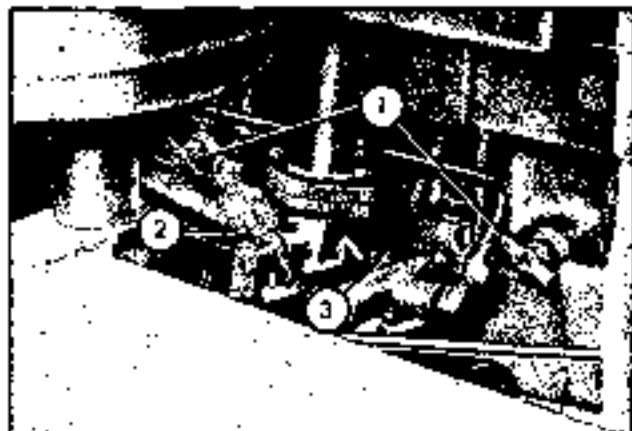

Fig. 1-15. Carburetor
8-17. GASOLINE CARBURETOR. (See figure 1-15). Inspect the linkages for signs of rough edges, paint, or binding. Check all connections for evidence of leaking. If the engine fails to start or does not operate properly, make the following carburetor adjustments.
- a. Screw in the idle adjusting needle (A, figure 1-15) until it just seats, then open the needle 2 full turns.
- b. Make certain the idle speed stop screw (B, figure 1-15) is holding the throttle disc slightly open.
3-23. The cooling system has 3 drains - the radiator drain, located at the lower side of the bottom tank; and a drain for each engine block (1, figure 1-15). When ever the system is drained, it should be done at the end of a day's run when any foreign material is in suspension and will be removed with the coolant. To insure complete draining, open all drains and remove the radiator cap.